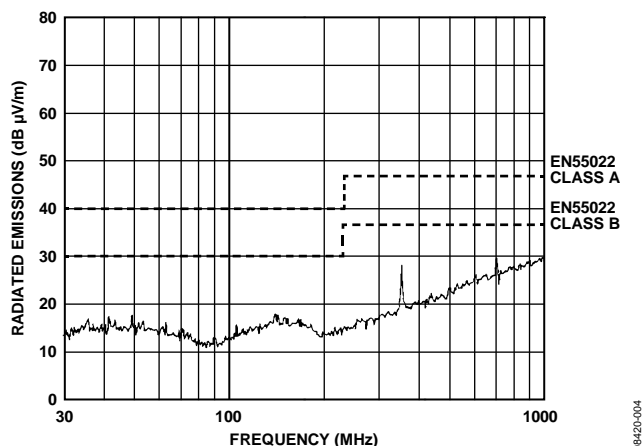

Figure 4. Horizontal Scan from 30 MHz to 1000 MHz (Corresponds to Worst Case for Table 4)
The EVAL-ADM2582EEBZ and EVAL-ADM2587EEBZ evaluation boards are configured and tested with 3.3 V  $V_{CC}$  or 5.0 V  $V_{CC}$  power supplied to the ADM2582E and ADM2587E devices, with the power supplied from the ADP667ARZ regulator output to  $V_{CC}$  (Pin 8). The ADP667ARZ regulator input is supplied from a standard 9 V battery. All EN55022 radiated emissions testing is performed with 9 V batteries. Testing is performed at a 500 kbps clock (ADM2587E) or 16 Mbps clock (ADM2582E), with the clock supplied by the on-board oscillator. The ADM2582E/ADM2587E transceiver is connected in full-duplex mode and the bus pins are loaded with a 60  $\Omega$  termination resistor. Measurements are carried out in a semi anechoic chamber at 10 m from 30 MHz to 2 GHz. Figure 4 to Figure 7 show the results of the worst case horizontal scans, and Table 4 to Table 7 show the tabulated quasi-peak (QP) results.